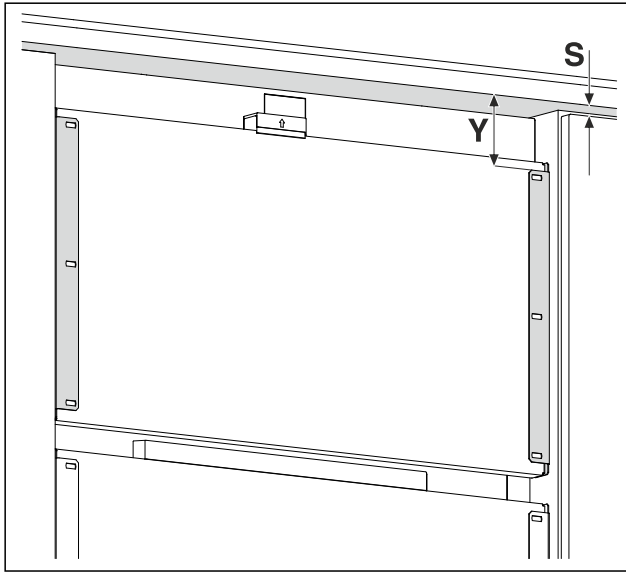

Fig. 17 Example illustration
- ▶ Measure the distance Fig. 17 (Y) from the bottom edge of the cabinet front to the bracket angle.
- ▶ Measure the distance Fig. 17 (S) from the bottom edge of the cabinet front to the top edge of the cabinet door.